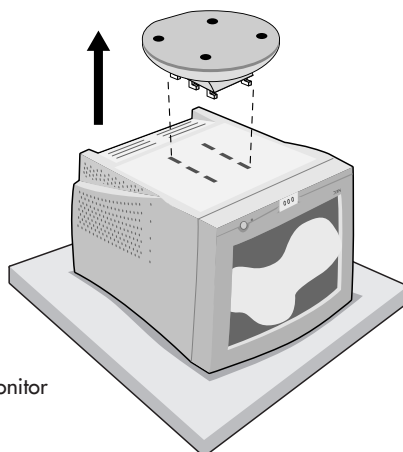

Figure TS-6
3. Pull out the tilt/swivel base from the six holes on the bottom of the monitor (**Figure TS.6**).